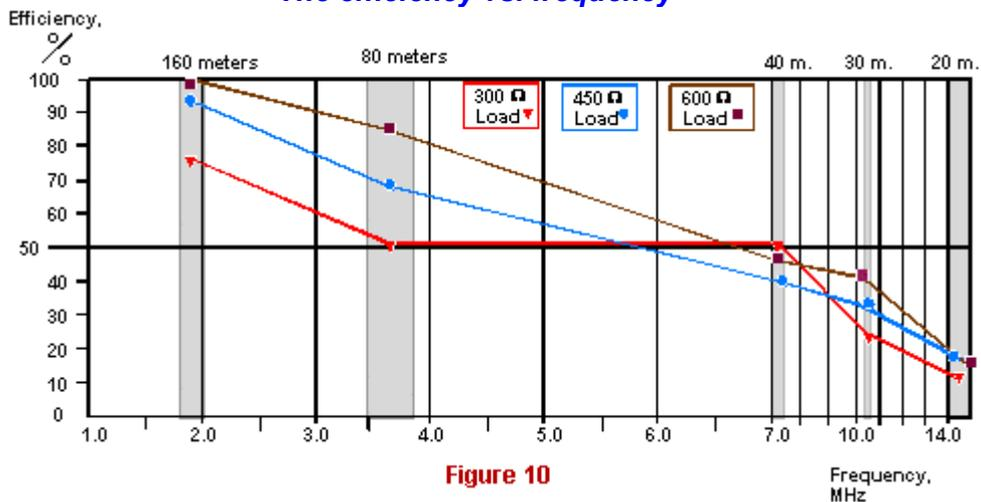

Figure 10
- The efficiency vs. frequency (Fig. 10).